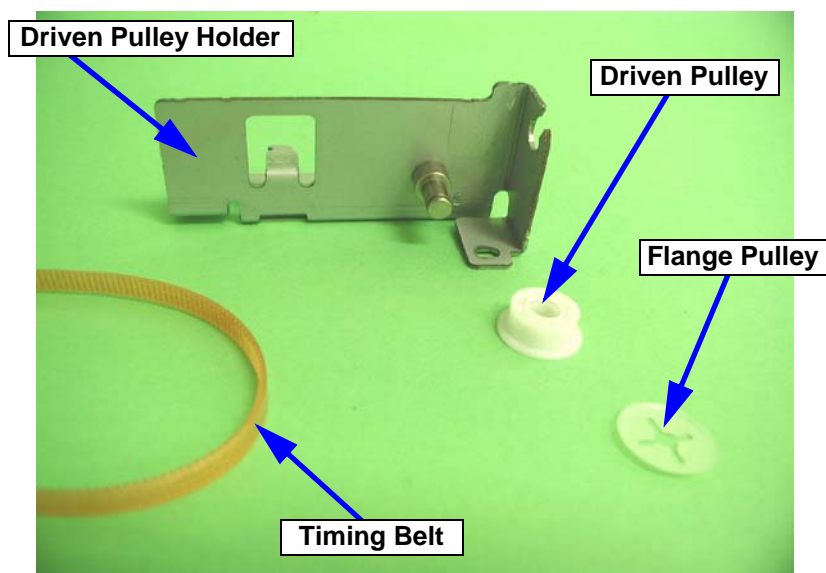

Figure 4-23. Driven Pulley Assembly Removal (2)
1. Remove the flange pulley. (See Figure 4-23)
2. Remove the driven pulley. (See Figure 4-23)